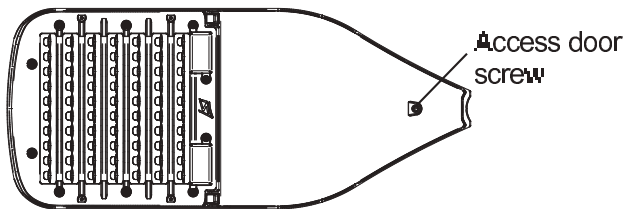

FIGURE 1
2. Loosen access door screw by turning CCM (counter-clockwise). Screw is captive; do not remove from door. See Figure 1.